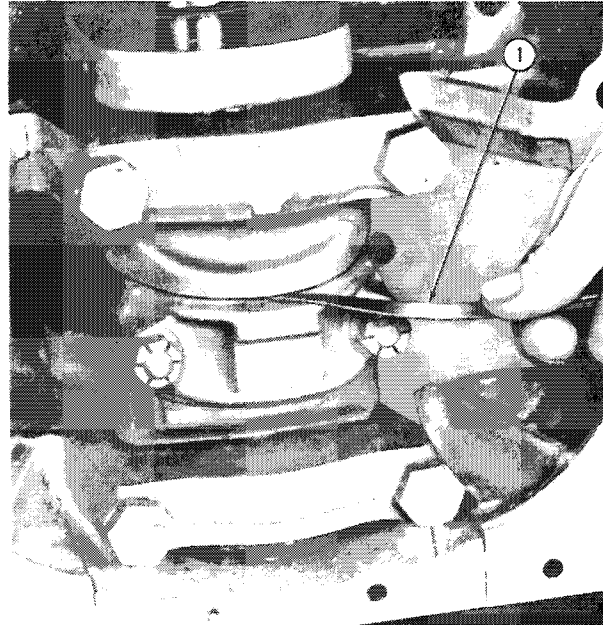

Figure 54
4. Use feeler gauges to check the side clearance of each connecting rod, Figure 54, see "Specifications" — Chapter 3.